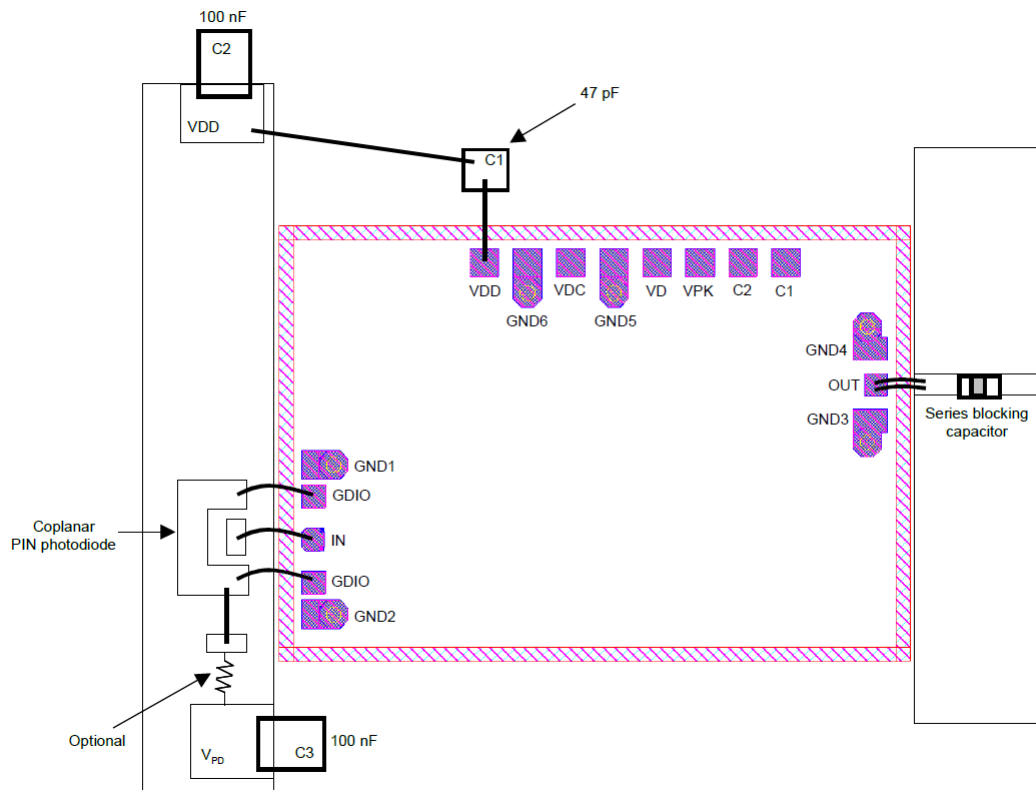
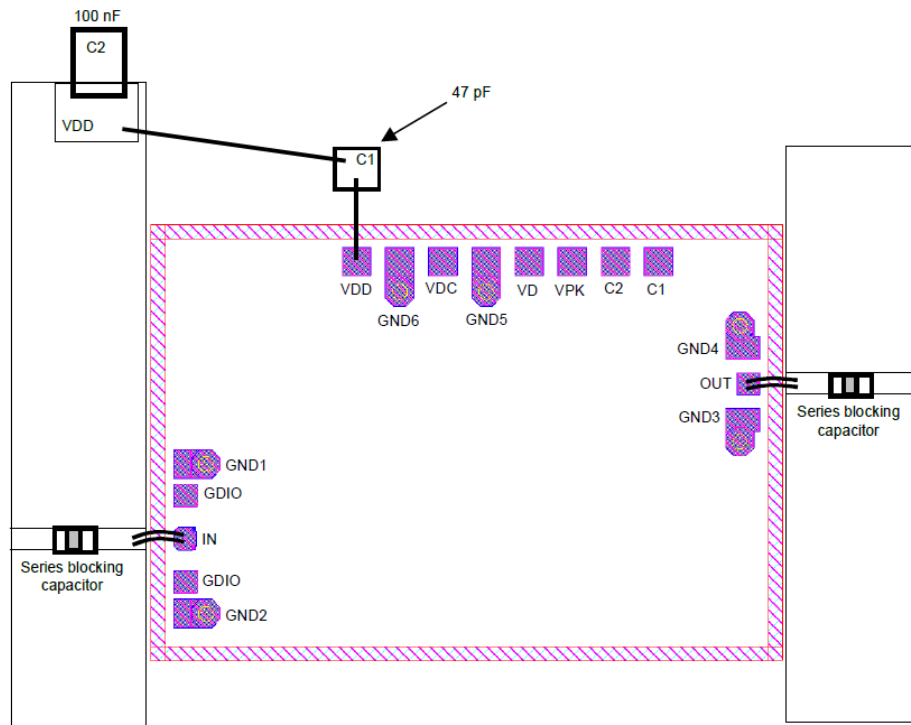

Figure 1: Module Layout: Photo Receiver Application
Figure 2: Module Layout: Other Application Cases
- Low frequency gain ripple assumes the use of drain decoupling close to the chip, as proposed on the figure 1 and 2.
Two module layouts are proposed. Figure 1 illustrates a module with the CGY2144UH/C2 used in a photo receiver application while in figure 2 is pictured the general purpose application module. In both cases, RF accesses are built with microstrip transmission lines. Coplanar transmission lines can be used and will give the same performance. All path lengths and physical sizes of the components should be minimized.
In figure 1 and figure 2, C1, C2 and C3 capacitors are used to improve the power supply rejection.